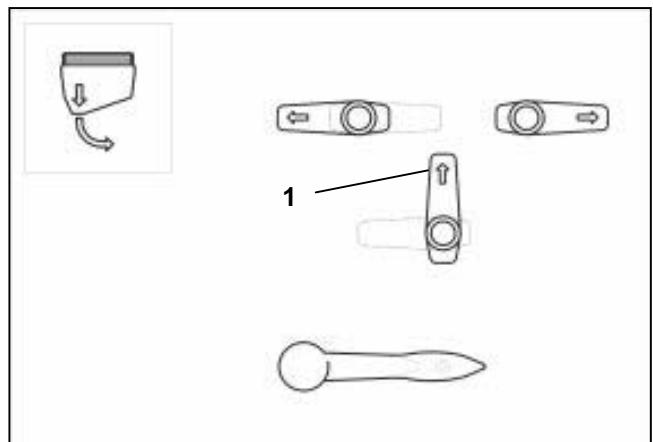

Fig. 7.10
- Swivel the 3-way tap (7.10/1) according to Fig. 7.10 and suck the liquid off the induction bowl.